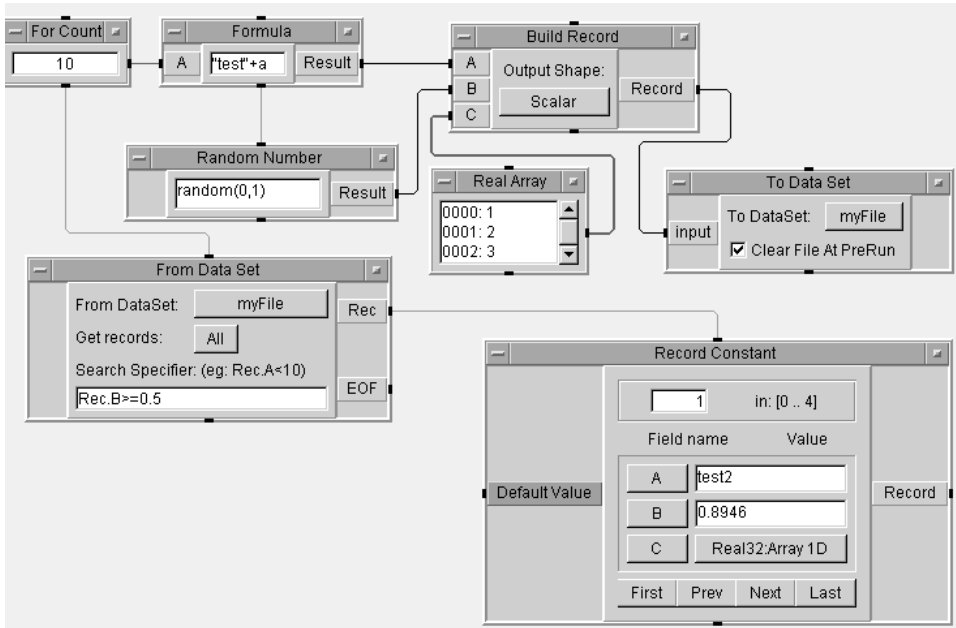

Figure 8.3. A Search operation with Data Sets
6. Run this program; it should look like Figure 8.3.